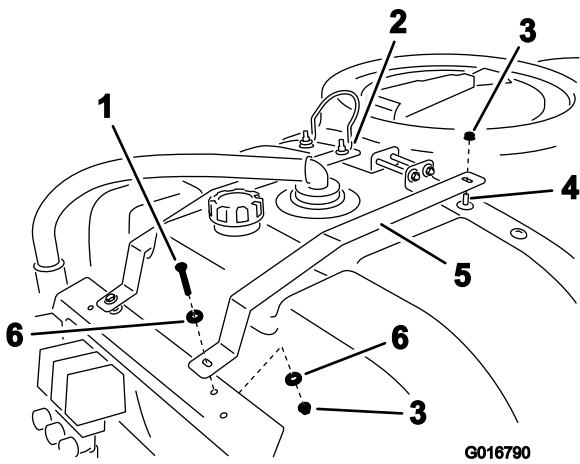

Figure 10
2. Install the rinse tank straps onto the rear tank straps with the hardware that you removed previously (Figure 10).